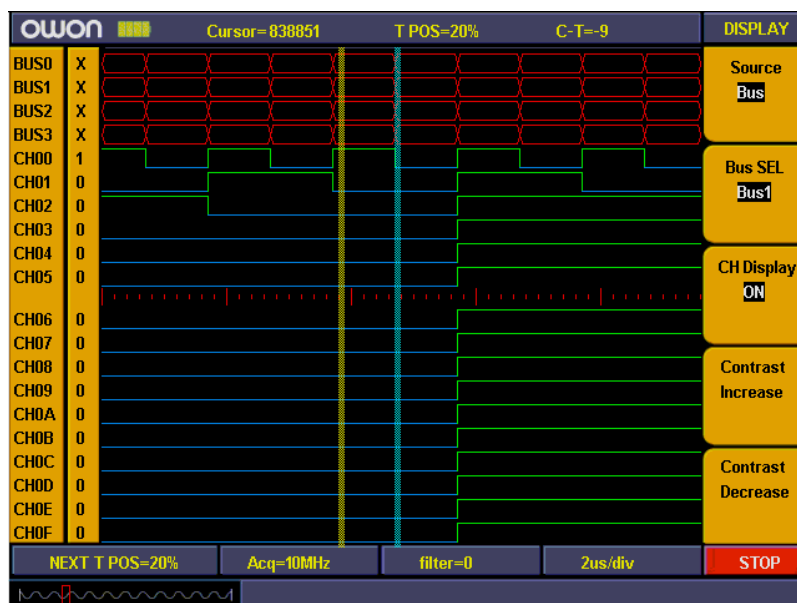

Fig.4-14
7. Press “**F3**” and set signal sources as “**OFF**”. Repeat operation of steps 6.7 and set BUS1、BUS2、BUS3 all as “**OFF**”. Ref to Fig.4-14